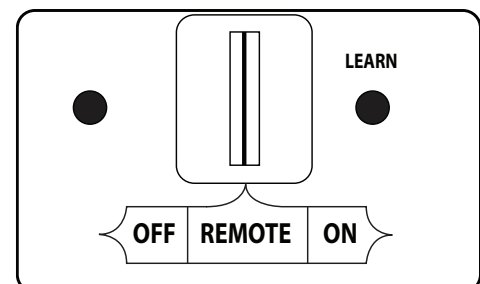

Fig. 27-2 Remote receiver detail (REMOTE)
- 1.** Ensure the pilot is burning. Then locate the 3-position switch on the remote receiver (see Fig. 27-2), and slide the switch to the **REMOTE** position.